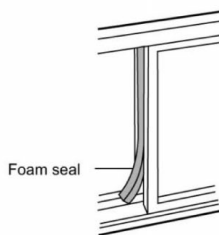

Fig.11
3. Cut the foam seal to an appropriate length and sealing the open gap between the top window sash and outer window sash. Show as in Fig.11.